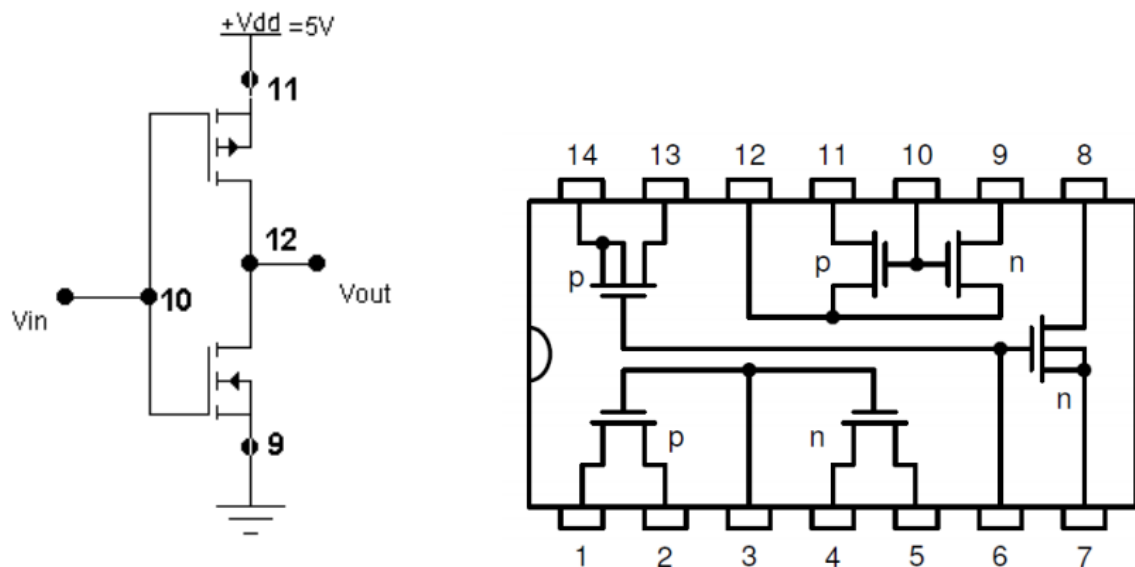

Fig. 3: The schematic view of a CMOS inverter and CD4007 pin diagram
- 1) Fig. 3 shows the schematic view of a CMOS inverter. Construct this circuit by using CD4007 MOS array chip as shown in Fig. 3. Connect pin 14 to  $V_{DD}=5\text{ V}$  and pin 7 to ground.